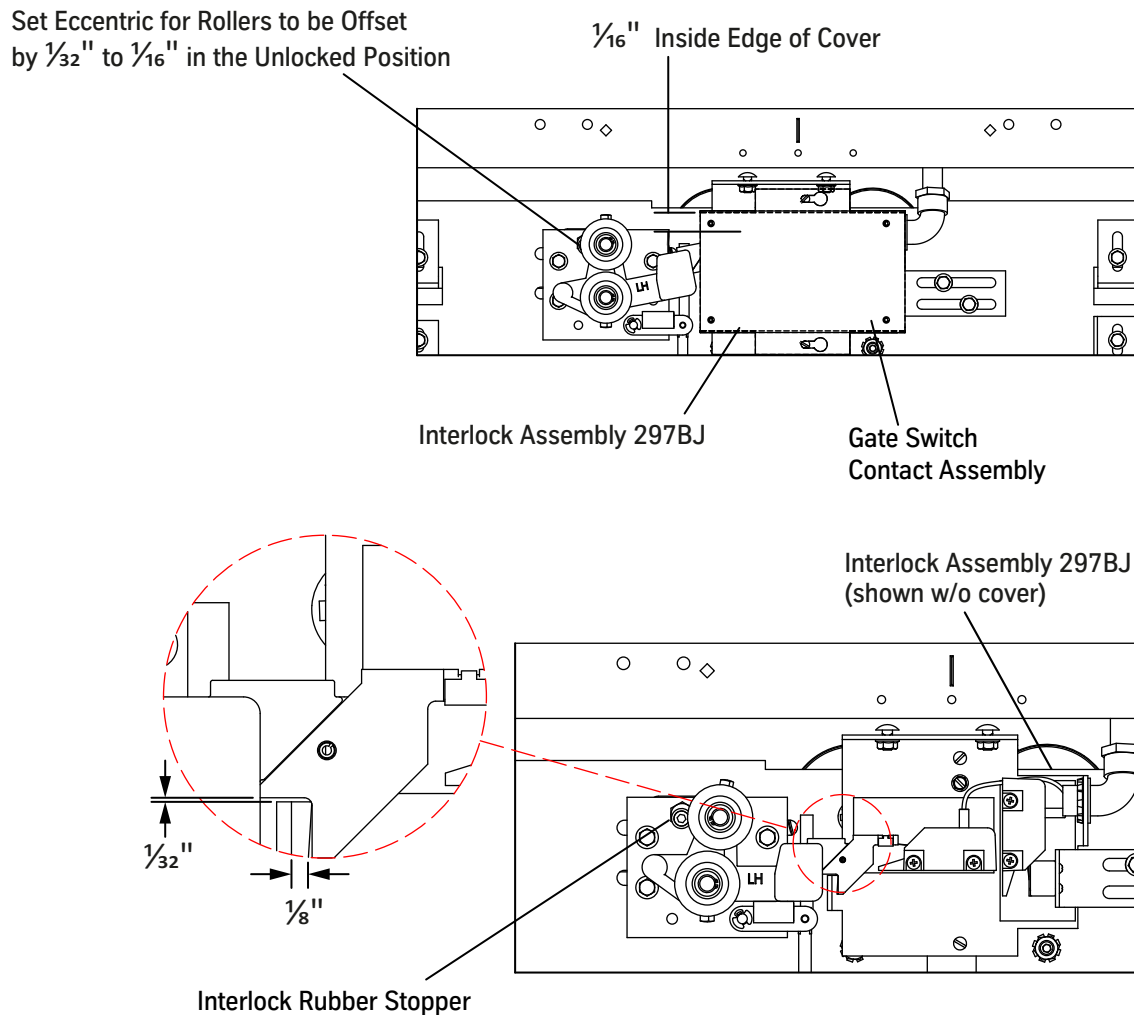

Figure 70 - Interlock Adjustment
3. Close the doors, and verify the following. See Figure 70 on page 95.